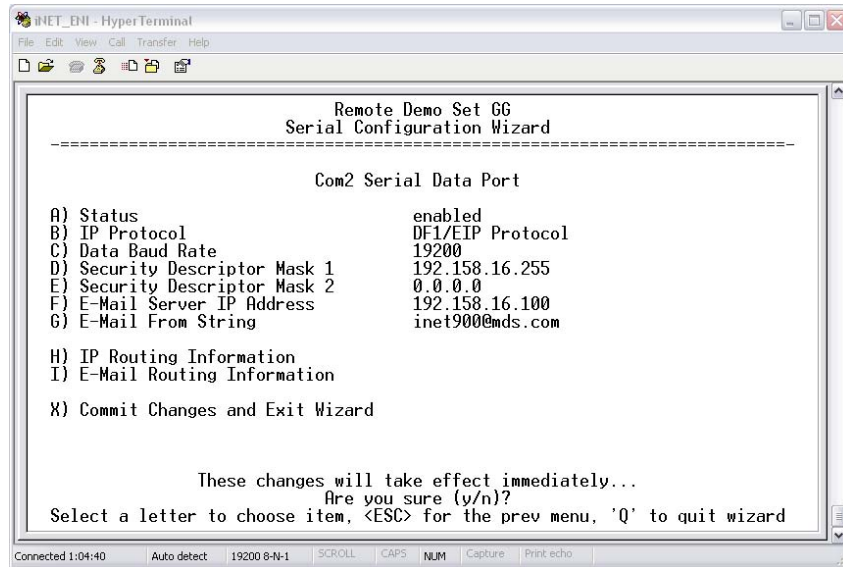

Figure A-10. Confirm Saving COM2 Changes
9. The Wizard asks you to confirm that you want to save the changes. See Figure A-10. Press **Y** to save the changes and exit the Serial Configuration Wizard.